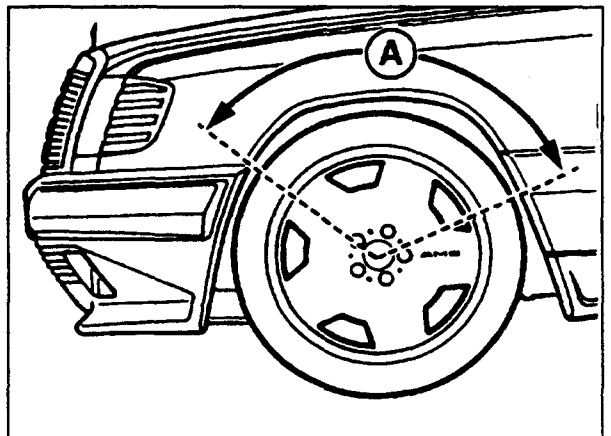

Figure 6
7. The inside edge of the front fenders must be rebent to an angle of 110° over the complete wheel cutout (A, Figure 6) to accommodate the wider wheels and tires.
10. The fender lip is reworked over the entire area (A, Figure 6) in several stages. A plastic hammer must be used to avoid damaging the paint.